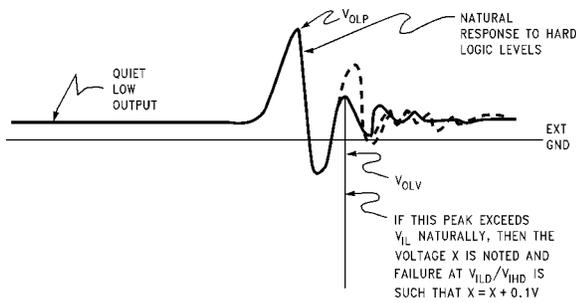

Figure 8. Ground Bounce Causes Dynamic Threshold
- If the natural ringing, other than initial switching rail bounce, of the output violates the previous two criteria then the ringing amplitude will be noted. Failure is then defined as a 100 mV movement in the output toward the threshold from the peak ringing amplitude, (Figure 8).